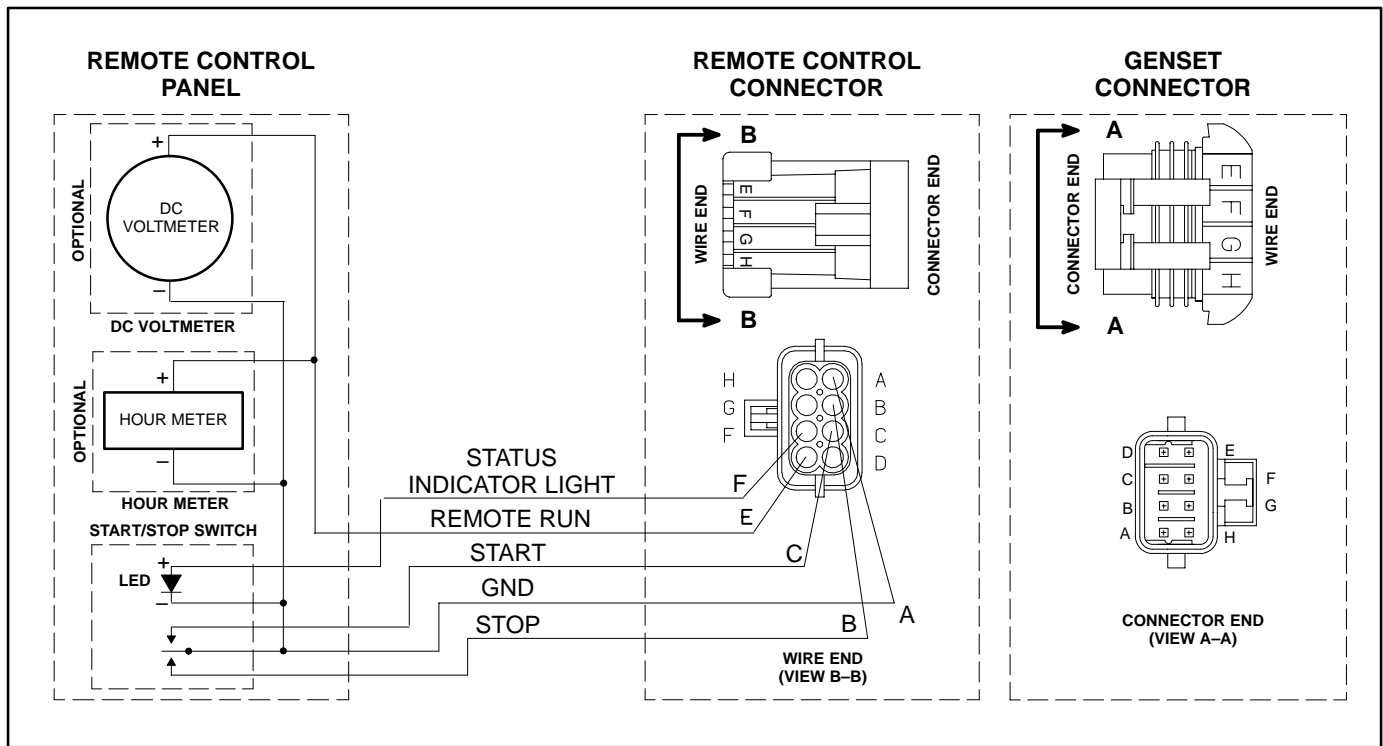

FIGURE 17. SCHEMATIC OF TYPICAL REMOTE CONTROL CONNECTIONS
1. Push the remote control wire harness connector through the entrance hole in the side of the genset housing and snap it together with the genset connector. If the wiring harness is made up by others, insulated 18 AWG copper conductors should be used for distances up to 30 feet (9 meters) and heavier gauge conductors for distances that are greater. Use flexible sheathing to protect remote control wiring. Figure 17 is a schematic of typical remote control connections. It identifies the function of each connector pin number. The remote panel end of each lead should be marked to identify the connector pin number.